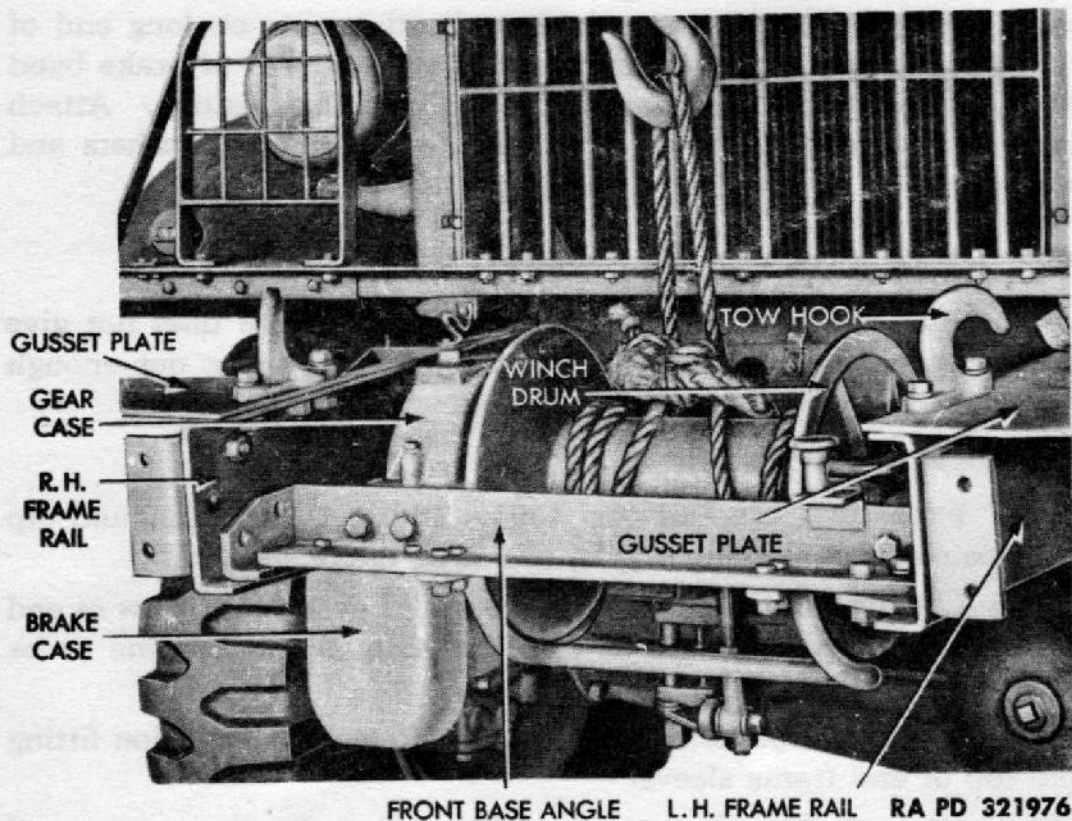

Figure 140 — Removing Winch
b. **Brake Band Removal** (fig. 140). Remove cap screws and lock washers which attach brake case and front base angle. Tap off brake case assembly. Remove two brake adjusting nuts, spring washer, and brake spring. Remove dead-end brake nut, and lift brake band out of case.
d. **Remove Winch Assembly** (fig. 140). Remove nuts, bolts, and lock washers which attach front and rear winch base angles to left and right frame rails. Lift out winch assembly.
a. **Install Winch Assembly** (fig. 140). Lift winch assembly into position between left and right frame rails. Attach front and rear winch base angles to frame rails with bolts, lock washers, and nuts.